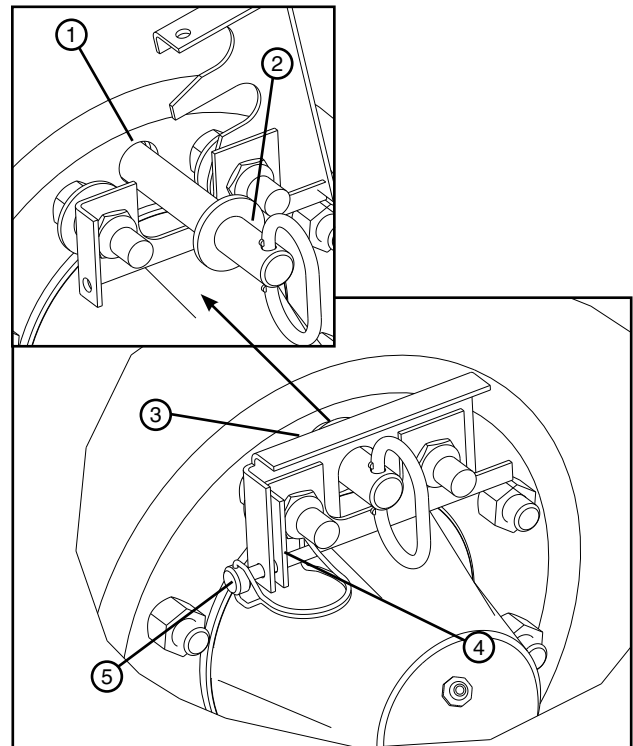

Figure 39-2 1. Hub Torque Pin Receiver 2. Torque Pin 3. Retainer Plate 4. Retainer Clip 5. Lynch Pin
- Rotate the tire until the hole in the hub torque pin receiver is aligned with the hole in the axle torque arm. Install the torque pin and close the retainer plate. Secure the retainer plate to the retainer clip with the lynch pin. See figure 39-2.